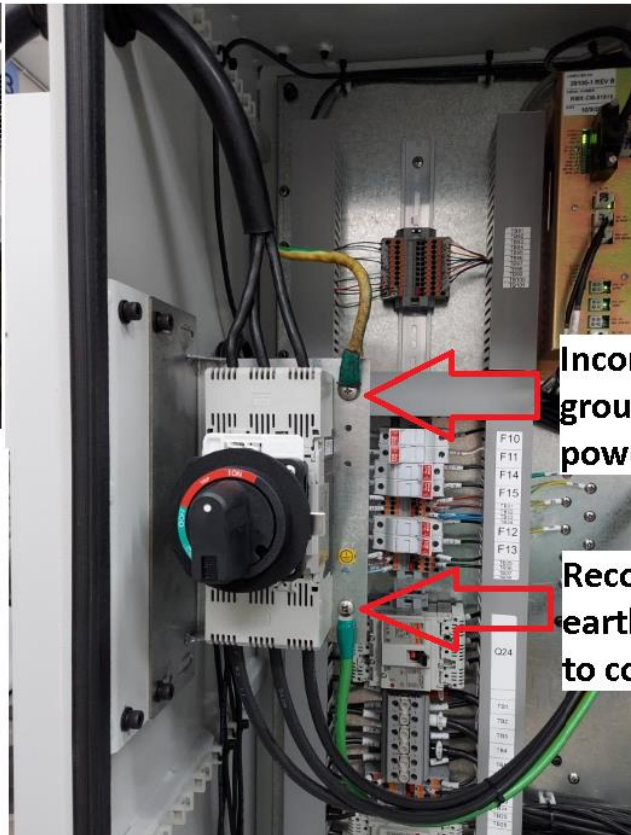
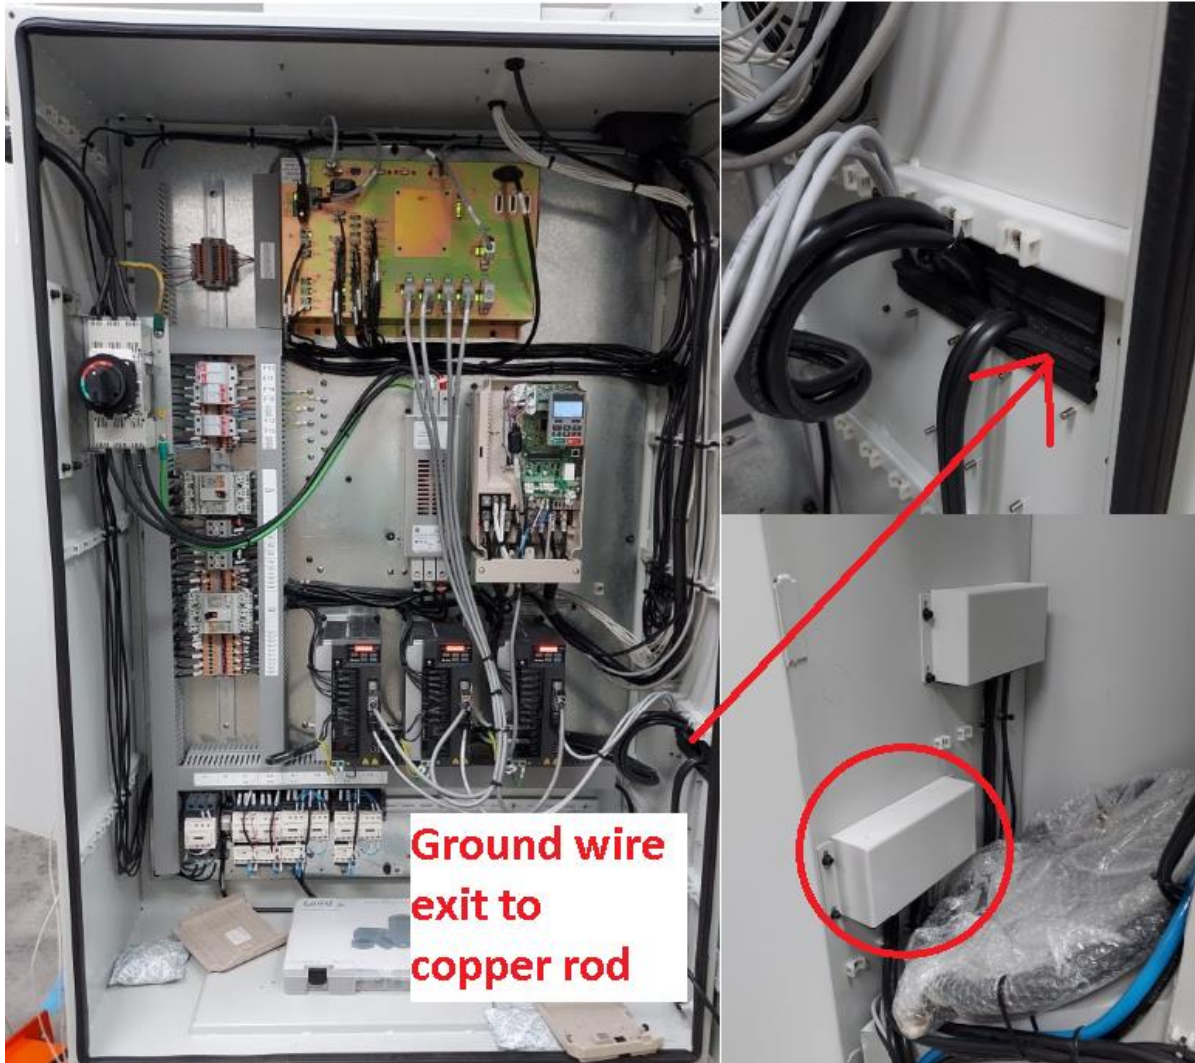

Figure 9 – Power Input and Connect the Ground Wires
Figure 10 – Exit Location for Ground Wire to Copper Rod
- Machine tool should be earth grounded with a dedicated 8-foot long copper rod. A 2 or 6-gage ground wire (depending on voltage) should run from the copper rod to grounding location in the electrical cabinet. See figures 9 and 10.
The 3 phase 208 or 480 voltage is connected to L1, L2 and L3 at the main power switch inside the electrical box. Connect the ground wire as shown in the figure 9.
It is strongly recommended that the machine be earth grounded. A dedicated copper rod 8 feet or so in length should be driven into the ground near the TMC. A ground wire should then be run from the location shown in figure 9. The copper wire should exit the electrical cabinet in the lower right-hand corner as shown in figure 10. Make sure the foam where the copper wire goes through seals the cabinet from external debris. The wire gage should be 2 gage for 208 volt machines and 6 gage for 480 volt machines.